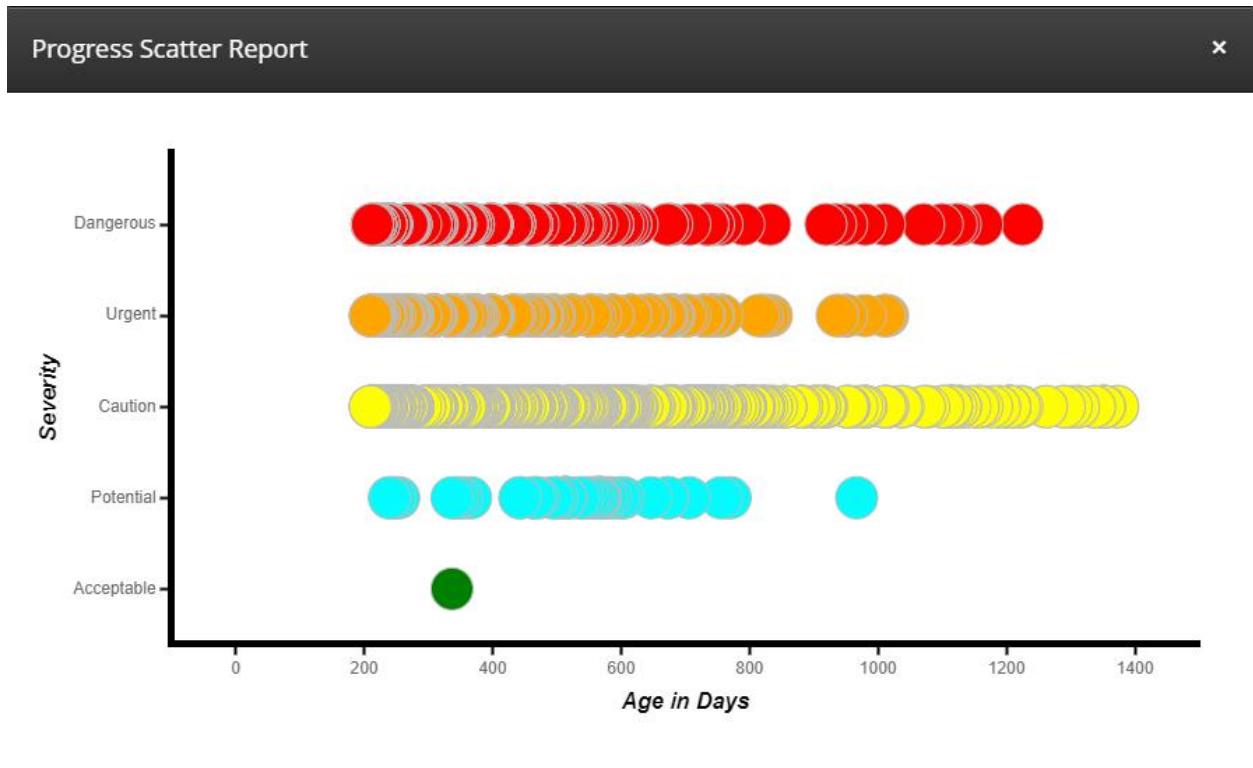

Figure 4
**Figure 4** – This is the condition entry scatter report when accessing the top level ICSR. This will always filter with the dashboard so any filters applied there will also be applied here.